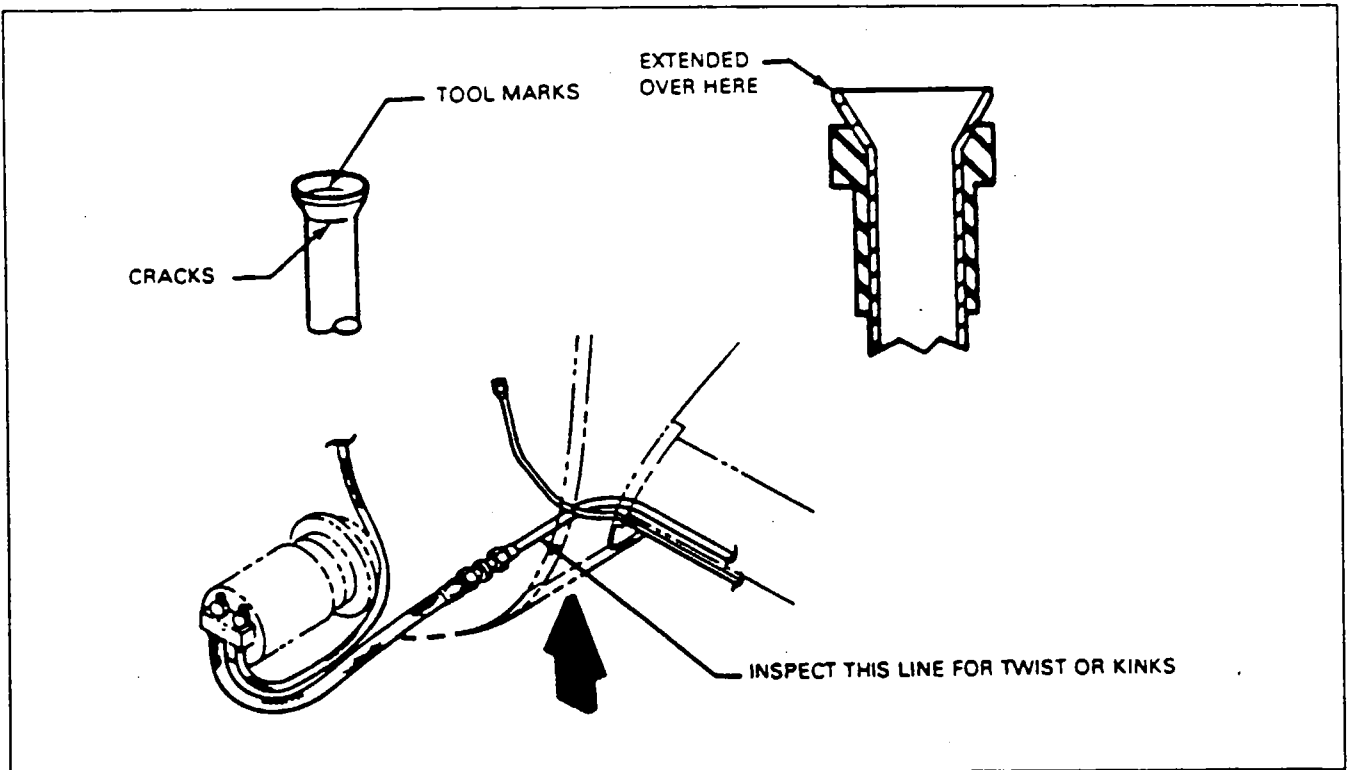

Figure 21-35. Inspection Points (Air Conditioning System) (Typical)
1. If leaks are suspected, inspect the flares carefully for tool marks and that the flares do not extend over the fitting collar. (Refer to Figure 21-35.)
2. An area that is subject to damage due to nut over torque is shown in Figure 21-35. Inspect this line for twist or kinks. An alternate method of tightening "B" nuts in lieu of torque values is as follows: